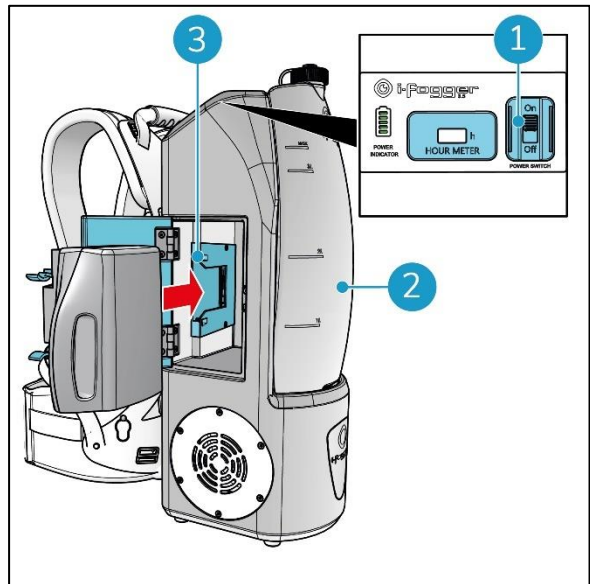

Figure 13
2. Ensure that the i-fogger is turned off. To do this check the ON/OFF switch on the i-fogger body (Figure 13, pos 1).
3. Insert the battery in the battery slot (Figure 13, pos 3) until you hear a “click”. The battery is now fixated.
4. Ensure that the disinfectant solution tank (Figure 13, pos 2) is in place.